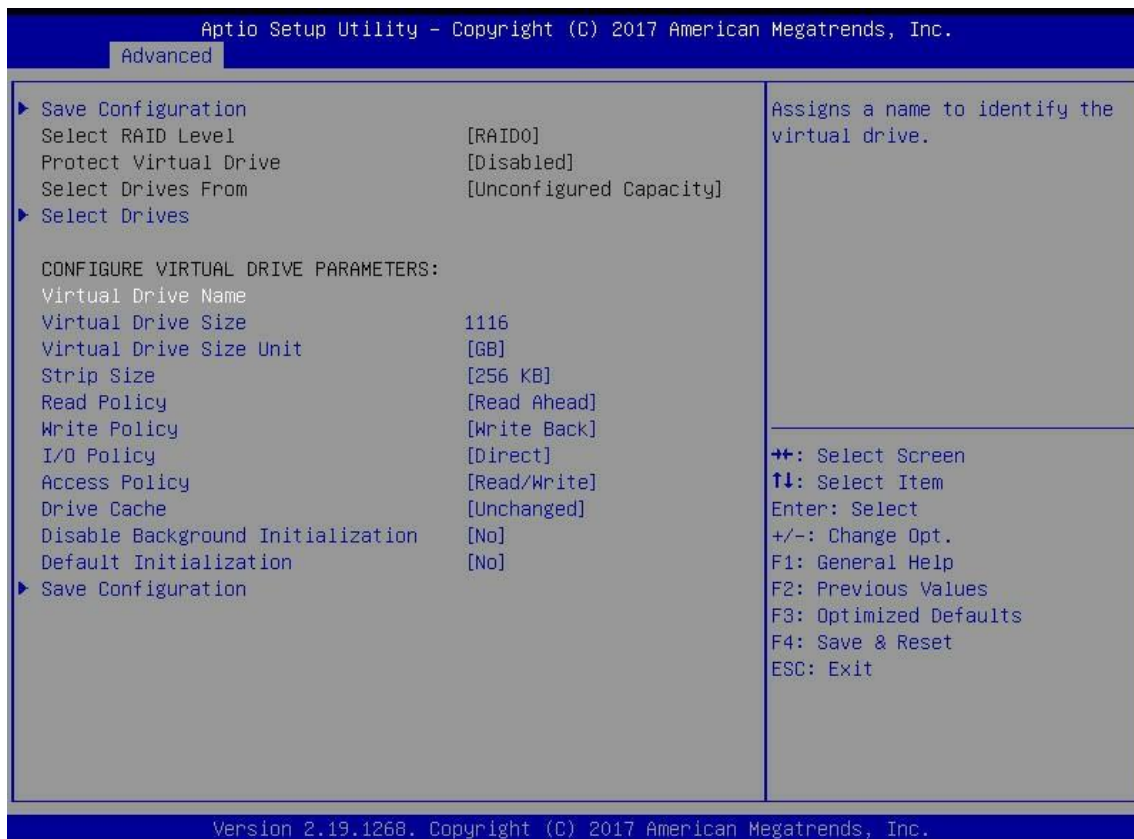

Figure 6-13
- g) Enter the interface shown in Figure 6-13, make corresponding settings (see table 1-36 for parameter description), then select save configuration and press enter.